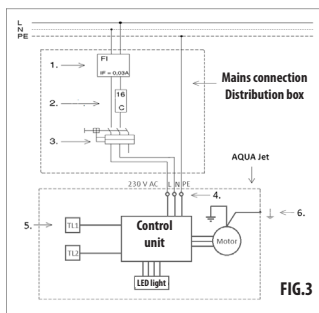

FIG.3
**AQUA Jet 100 Wiring Diagram (Fig. 3):**
The counter-current unit shall be connected to the distribution network by means of the motor starter, fuse and residual current circuit breaker (as indicated in the wiring diagram in Fig. 3). Failure to install any of those safety devices may result in (even fatal) electrical accident and represents a cause of general hazard. The concerned equipment shall be located outside of the pool protective zone (i.e. zones 0, 1 and 2 to CSN 33 2000-7-702), including the areas found within the distance of 3.5 m from the pool wall, see Fig. 4.